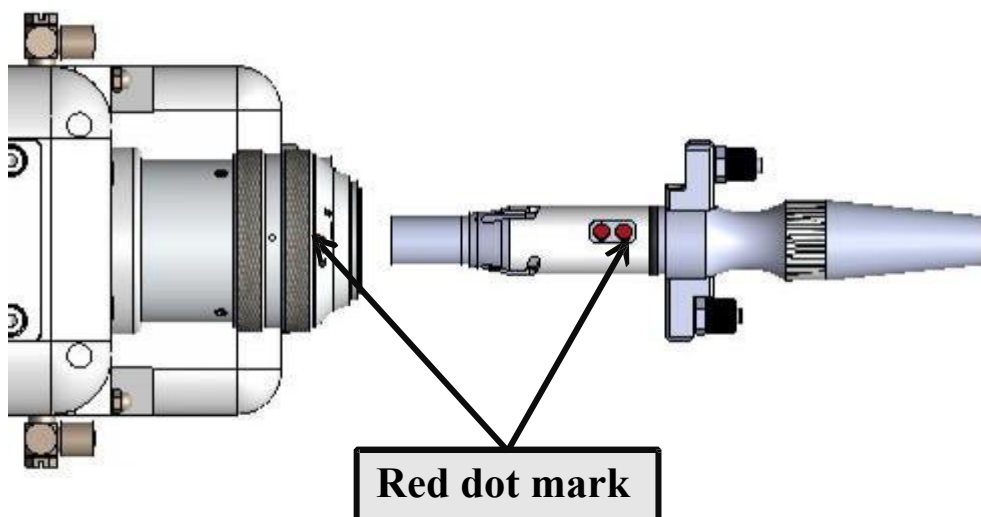

Figure 2.5
④ Align the red dot on the fiber head with the red dot on the QBH connector, and slowly insert the fiber head into the QBH connector, as shown in Figure 2.5: